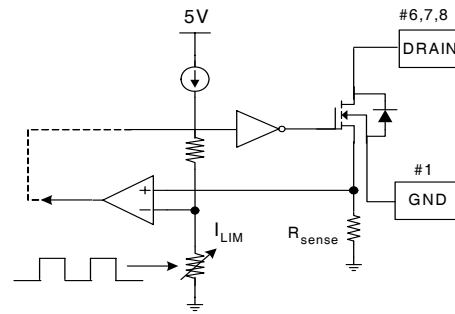

**Figure 6. Over Load Protection (OLP)**
**4.1 Over Load Protection (OLP):** Overload is defined as the load current exceeding a pre-set level due to an unexpected event. In this situation, the protection circuit should be activated in order to protect the SMPS. However, even when the SMPS is operating normally, the Over Load Protection (OLP) circuit can be activated during the load transition. In order to avoid this undesired operation, the OLP circuit is designed to be activated after a specified time to determine whether it is a transient situation or an overload situation. In conjunction with the Ipk current limit pin (if used) the current mode feedback path would limit the current in the Sense FET when the maximum PWM duty cycle is attained. If the output consumes more than this maximum power, the output voltage ( $V_o$ ) decreases below its nominal voltage. This reduces the current through the optocoupler LED, which also reduces the optocoupler transistor current, thus increasing the feedback voltage ( $V_{FB}$ ). If  $V_{FB}$  exceeds 3V, the feedback input diode is blocked and the 5 $\mu$ A current source ( $I_{DELAY}$ ) starts to slowly charge  $C_{fb}$  up to Vcc. In this condition,  $V_{FB}$  increases until it reaches 6V, when the switching operation is terminated as shown in Figure 6. The shutdown delay time is the time required to charge  $C_{fb}$  from 3V to 6V with 5 $\mu$ A current source.